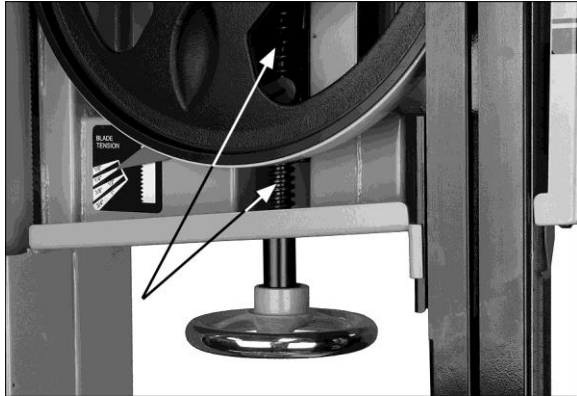

Figure 45
- Grease blade tension screw (Figure 45).